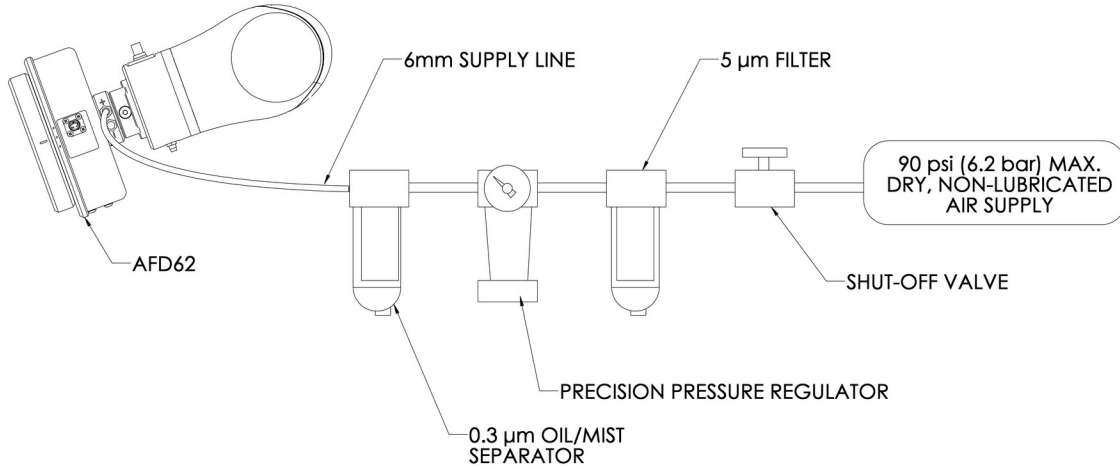

Figure 6: Pneumatic configuration
-1 or -2 mounting flange is aligned and positioned into the mounting bracket such that the THRU holes are aligned. At that point, the M8x1.25 shoulder bolt should be inserted and threaded into the AFD62 mounting bracket to tighten the assembly as shown in Figure 6. This bolt should be torqued to 40N-m (30ft-lbs).
The pneumatic supply system should be configured as shown in Figure 6.